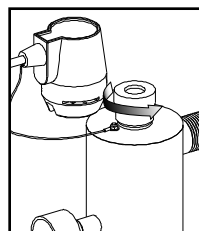
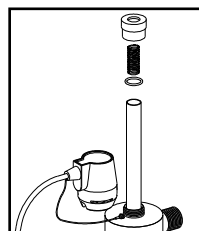

FIGURE 3A
FIGURE 3B
4. Remove the aluminum retaining nut by turning counter clockwise (Figure 3A). To drain reactor, remove drain plug (see page 1) and drain into a bucket. Grasp the quartz sleeve and fully remove from the reactor chamber. As with the lamp, make sure the sleeve is removed from the reactor chamber being careful not to angle the sleeve as it is removed from the reactor (Figure 3B) to avoid breakage.